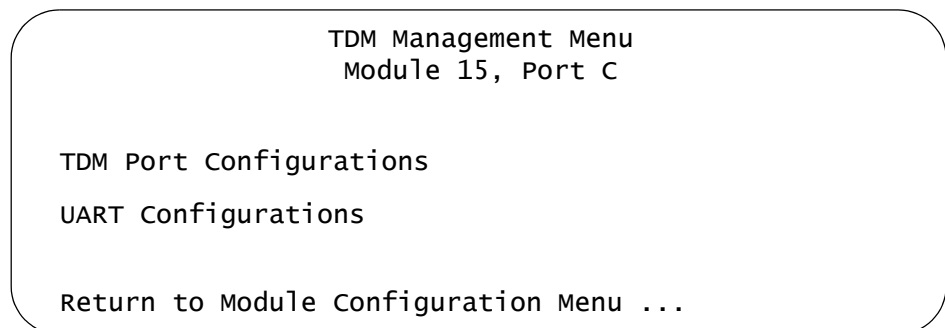

Figure 99. TDM Management Menu
3. From the Module Configuration Menu, select **3: TDM LIU (T1/E1) Configuration** to display the TDM Management Menu shown in Figure 99.
3. From the line card's Module Configuration Menu, select **TDM LIU (E1/T1) Configuration** to display the menu in Figure 99 on page 244.